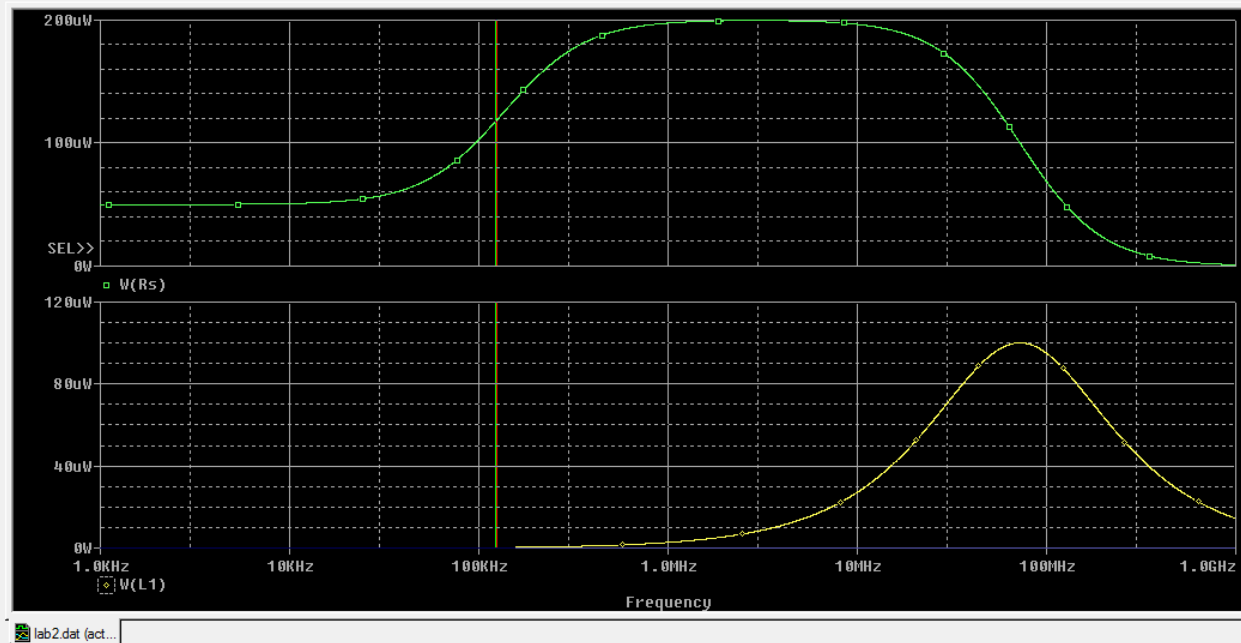

Figure 6. Displaying multiple plots in the same window.
25. Multiple plots in the same window can be added by going to “plot” -> “add plot to window” as shown in Figure 6 (for a pair of arbitrary figures). This is useful for displaying both the magnitude and phase of a parameter, for example.